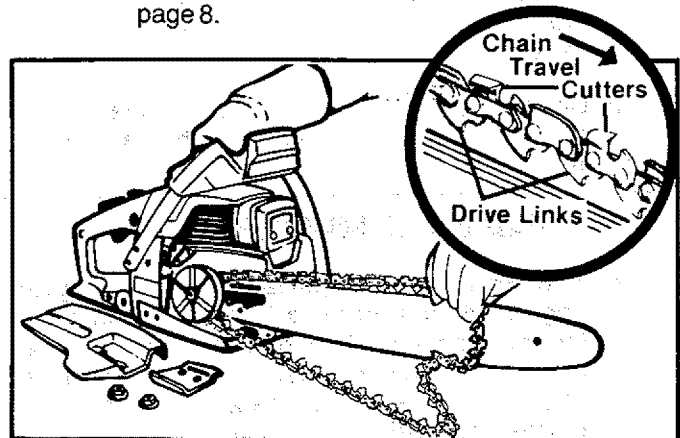

Figure 6
- c. Hold chain with cutters facing as shown in Figure 6.
- g. Start at the top of the bar and fit the chain drive links into the groove around the Guide Bar. Figure 6.